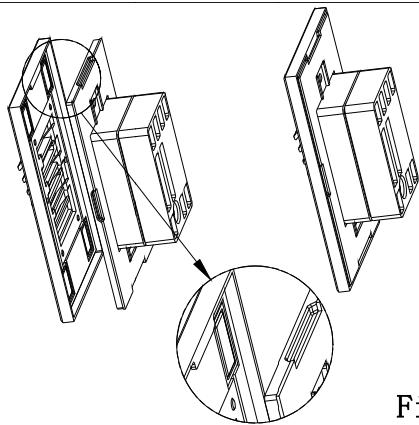
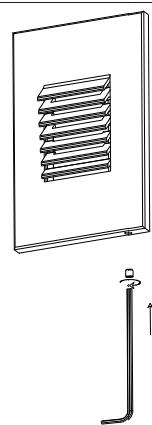

Fig. 3
Fig. 4
4. Install the cover, fasten the cover (as shown in Figure 3), and use the allen key to tighten the set screw (as shown in Figure 4).